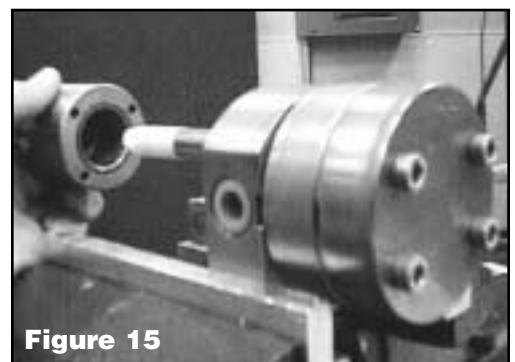

Figure 15
a) Snap the retaining ring (16) onto the drive shaft. Install the mechanical seal (13) onto the drive shaft with the carbon end away from the front plate. Take care when pressing the seal onto the shaft. **The elastomer can be damaged by the keyway or shaft edge.**
c) Install the ceramic seat in the seal housing (11) with the O-ring of the seat away from the mechanical seal.
14. If your pump contains a double lip seal (51) [item 13 on 4.5 & 9 cc/rev pumps] push the seal to the rear of the seal housing. Make sure there is no gap between the seal and the seal housing.
15. Install the o-ring (33) into the recess in the seal housing (11). If necessary, use compatible grease to keep the o-ring in place. **Note:** This ring may already be in place if the pump was previously assembled.
16. Install the seal housing (11) over the drive shaft (2). See *Figure 15*.
17. Lubricate the socket head screws and install them (18) into the seal housing (11). Tighten to the recommended torque remembering to use a crossing pattern.
18. Install the square key (17) into the drive shaft keyway.